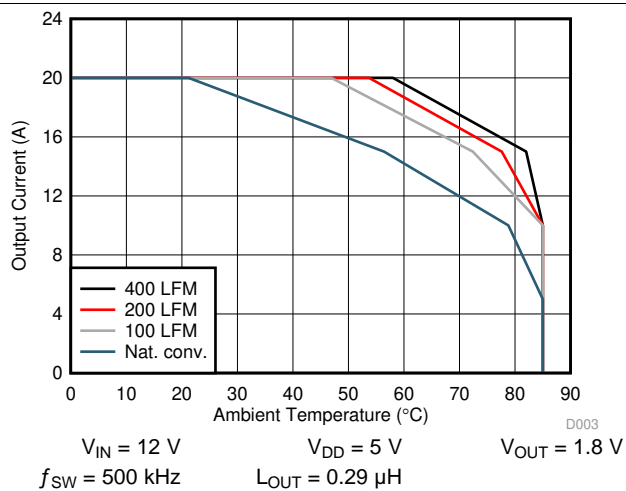
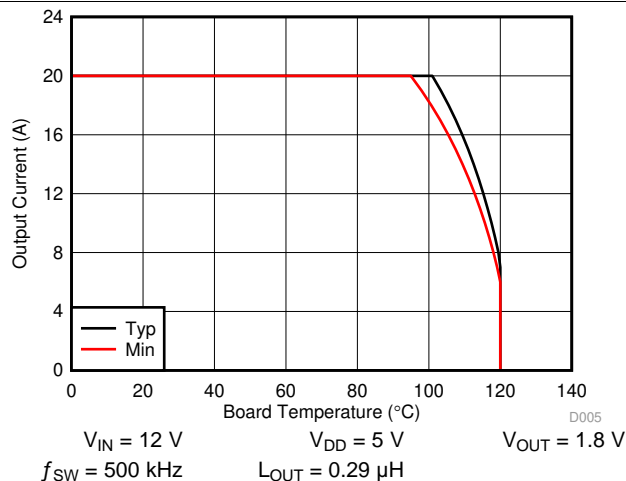

Figure 3. Safe Operating Area – PCB Horizontal Mount ⁽¹⁾
Figure 5. Typical Safe Operating Area (1)
The SOA curves in the CSD97376Q4M data sheet give engineers guidance on the temperature boundaries within an operating system by incorporating the thermal resistance and system power loss. Figure 3 and Figure 5 outline the temperature and airflow conditions required for a given load current. The area under the curve dictates the safe operating area. All the curves are based on measurements made on a PCB design with dimensions of 4 in (W) \times 3.5 in (L) \times 0.062 in (T) and 6 copper layers of 1-oz copper thickness.